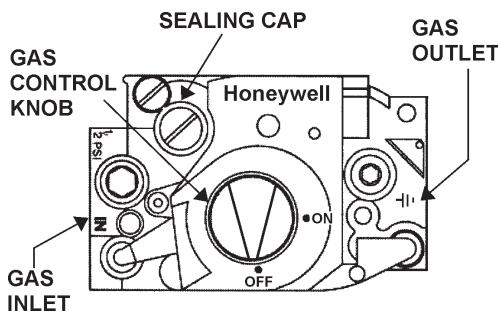

FIGURE 13
Figure 13 shows the type of combination manual gas control valve and regulator used on these heaters.
3. Remove the regulator adjustment sealing cap, see Figure 13, and adjust the pressure by turning the adjusting screw with a screwdriver.